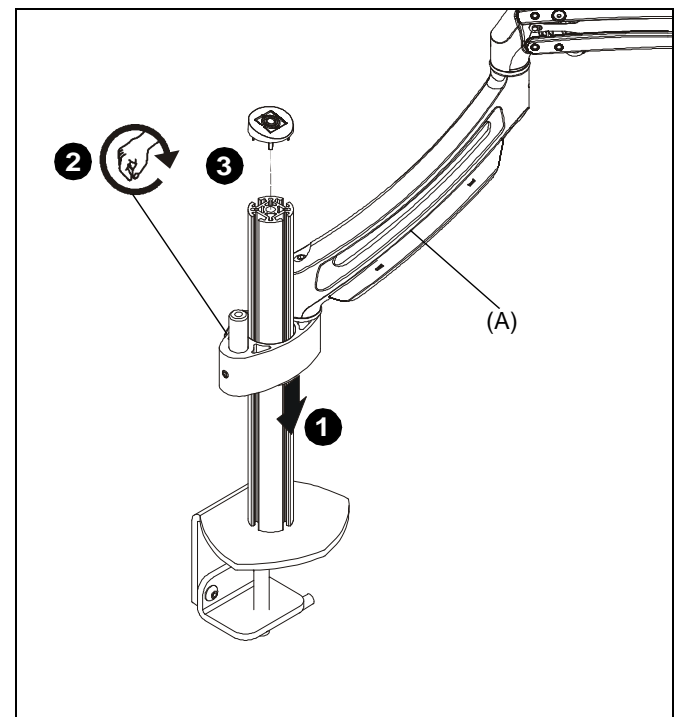

Figure 3
1. Slide KRA211 assembly (A) onto desk mount column. (See Figure 3)
2. Tighten clamp on back of KRA211 assembly (A) to secure at desired height. (See Figure 3)
3. Replace top cap onto column. (See Figure 3)